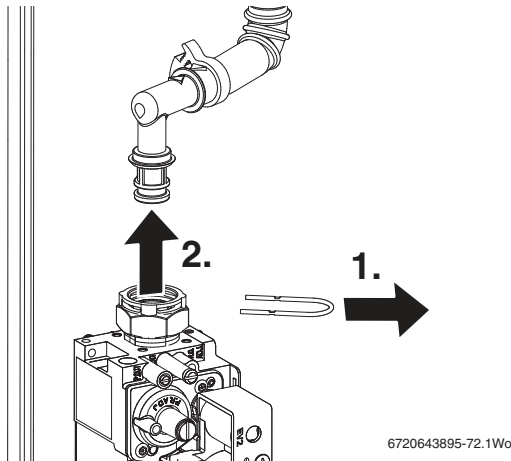

Fig. 83 Gas valve upper connection
Refer to figure 83
- ▶ Remove wire clip from gas valve outlet then move gas pipe free from the gas valve (see figure 83).